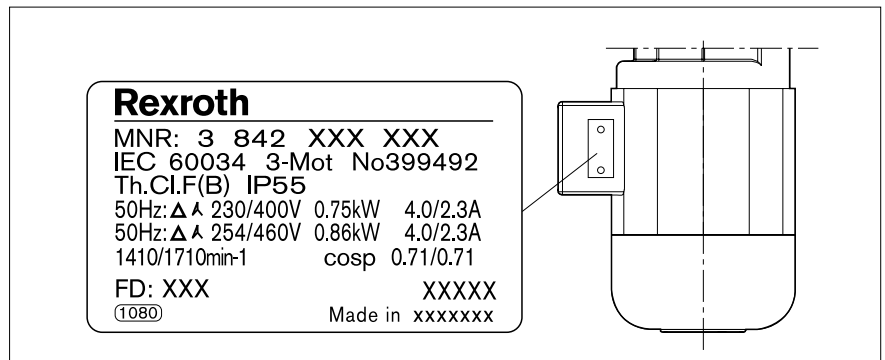
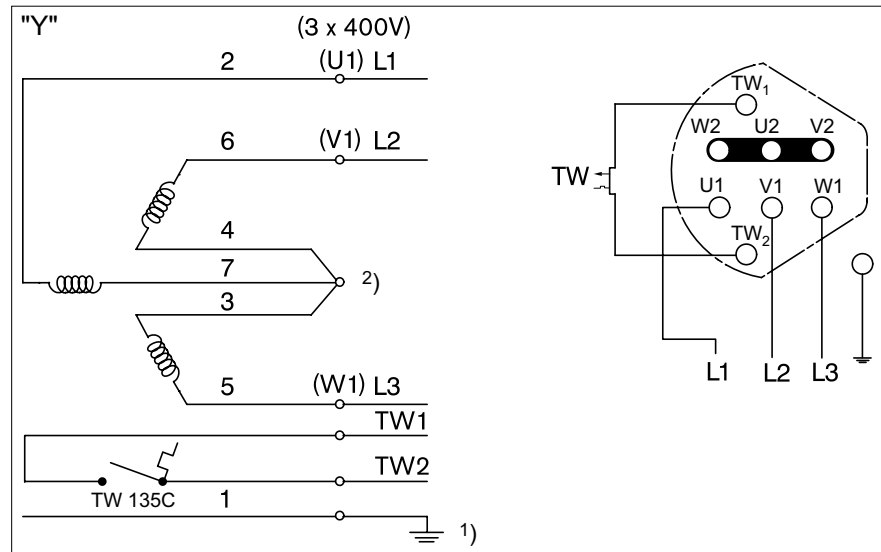
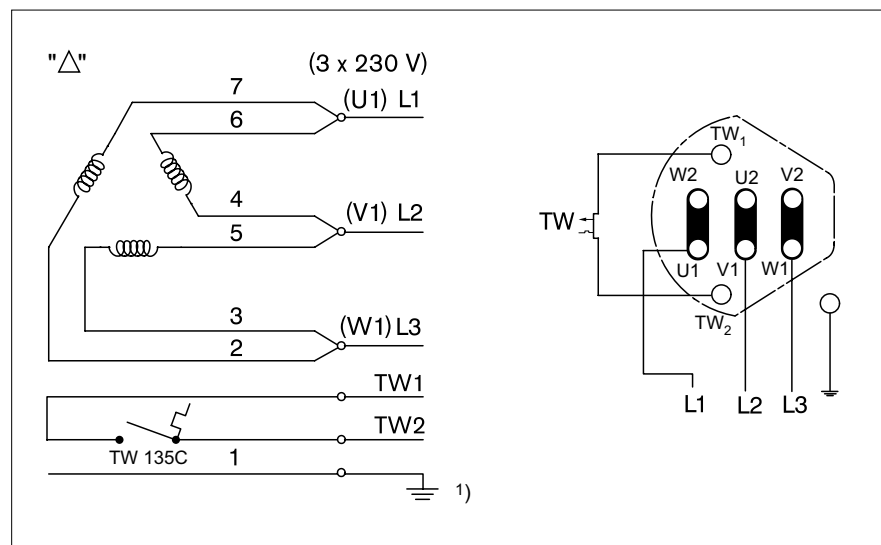

Fig. 16: Nameplate
Fig. 17: Star circuitry
Fig. 18: Delta circuitry
- ▶ Carry out the motor connection according to the information on the nameplate (Fig. 16) on voltage and current, according to Fig. 17 (Y) or Fig. 18 (Δ).
Observe connection diagrams according to Fig. 17 and Fig. 18 as well as the connection diagram in the terminal box!
2. Switch any two wires (L1, L2 or L3 in Fig. 17 and Fig. 18) to switch the motor's rotational direction.
Star circuitry (Fig. 17)
Delta circuitry (Fig. 18)
1-7 winding colors (Fig. 17 and Fig. 18):